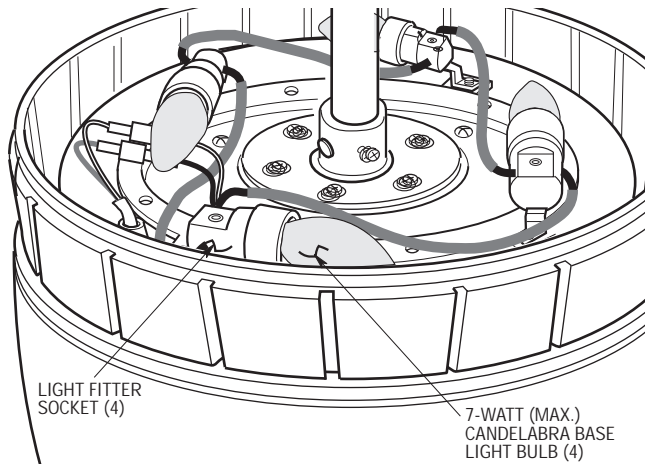

Figure 6
- 5. Install the four 7-watt (maximum) candelabra base light bulbs (not supplied) into the light fitter sockets (Figure 6).